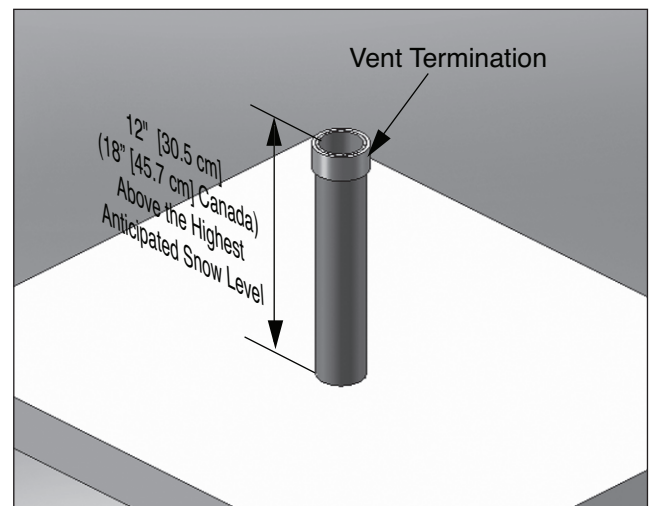

Fig. 14 - Category - IV - Vertical Termination of Vent Pipe
3. The vent piping must terminate vertically with a coupling to accept the bird screen and must be located 12 in. [30.5 cm] (18 in. [45.7 cm] Canada) above the highest anticipated snow level as shown in *Fig. 14 on page 21*
3. Locate the vent pipe penetration to provide clearances as described in *Fig. 14 on page 21*.
3. The vent piping must terminate vertically with a coupling as shown in *Fig. 14 on page 21*.
Do not extend the vent pipe above the roof beyond the dimensions shown in *Fig. 14 on page 21*. Extended exposure of the vent pipe could cause condensate to freeze and block the vent pipe, resulting in substantial property damage, serious injury, or death.